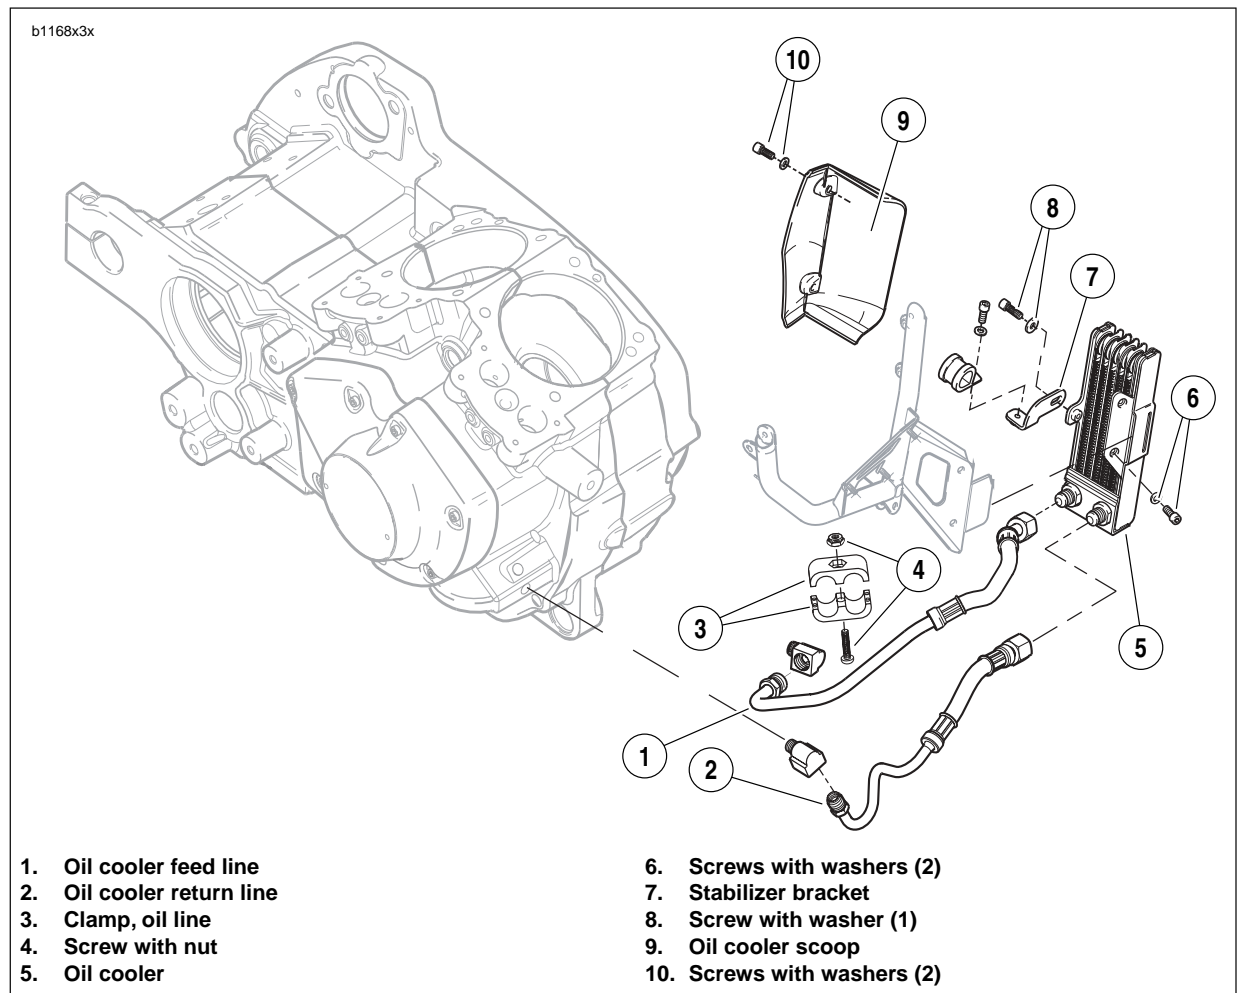

Figure 3-110. Oil Cooler
3. SEE Figure 3-110. Remove clamp (3) from oil cooler oil lines.
4. Loosen oil cooler return line (2) at oil cooler. Do not disconnect.
5. Loosen oil cooler feed line (1) at oil cooler. Do not disconnect.
6. Remove two fasteners (10) securing the oil cooler scoop (9) and remove scoop.
7. Remove fastener (8) securing oil cooler to stabilizer bracket.
8. Remove the fasteners (6) holding the oil cooler (5) to mounting bracket.
1. See Figure 3-110. Lightly coat the threads of the oil cooler fittings with clean H-D 20W50 engine oil. Wipe off any excess oil.
3. After the oil cooler is in place, apply LOCTITE 271 to the two fasteners (6) and tighten to 96-108 **in-lbs** (10.8-12.2 Nm).
4. Install the stabilizer bracket fastener (8) and tighten to 66-78 **in-lbs** (7.5-8.8 Nm).
5. Install oil cooler scoop and apply Loctite 271 to the two fasteners (10) and tighten to 48-72 **in-lbs** (5.4-8 Nm).